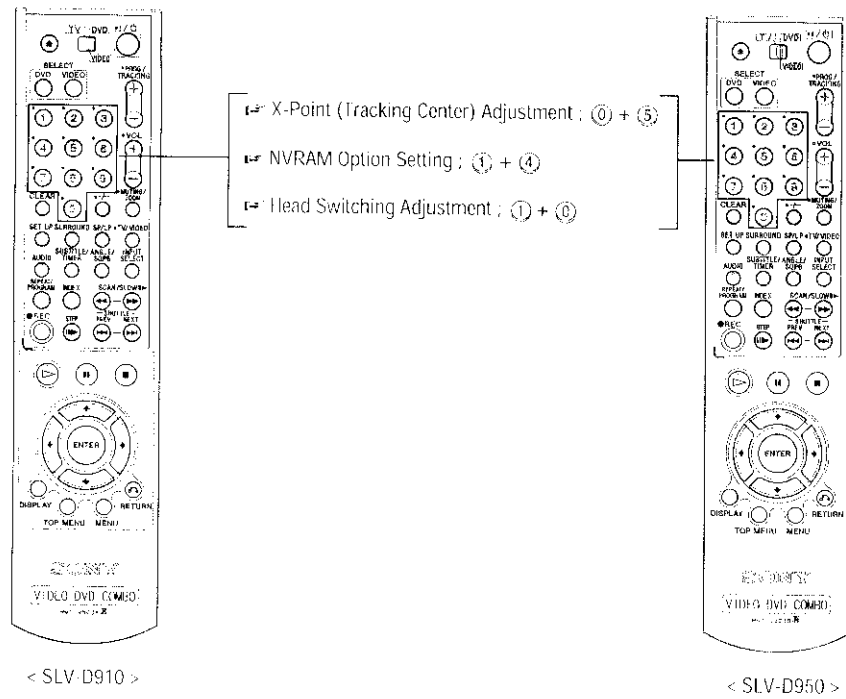

Fig. 6-1
- 3) Press the "1, 9" buttons : remote control adjustment operates automatically. (See Fig. 6-1)
- 3) Press the "0, 5" remote control buttons, then adjustment is operates automatically. (See Fig. 6-1)